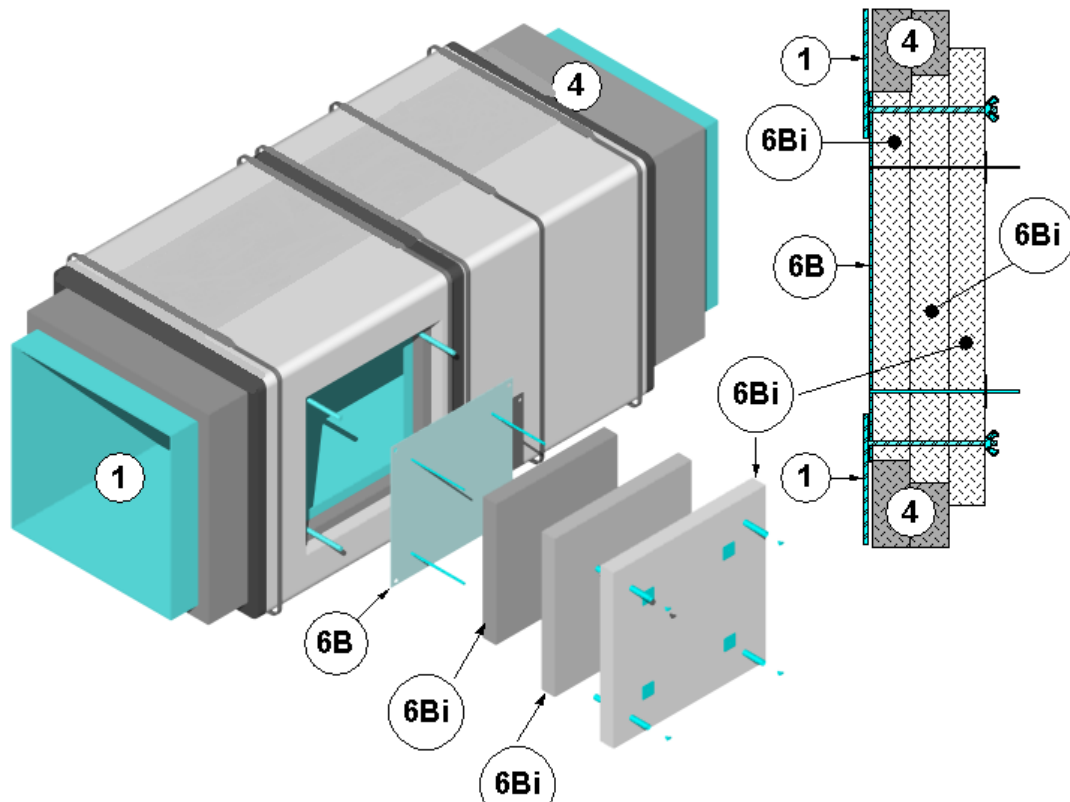

Figure 3 – Field Fabricated Access Door
- B. OPTIONAL FIELD-FABRICATED ACCESS DOORS – Refer to Figure 3. Mark a clean-out access opening location on the insulated grease duct (Item 1) at its mid-height along the horizontal section. Cut a 26 in. x 20 in. opening in the duct insulation (Item 4). Remove and discard the cut duct insulation (Item 4). Cut and center a 24 in. x 18 in. opening into the side of the grease duct (Item 1) by maintaining a 1 in. clearance between the perimeter of the opening and the cut duct insulation (Item 4). Remove and discard the cut steel. Weld four min. 4 in. long, 1/4 in. diameter, all-thread steel rods to the grease duct (Item 1). Locate one steel rod at each corner of the grease duct (Item 1) opening so that they are 11 in. oc and squared within the duct insulation (Item 4) opening.
ACCESS INSULATION – Refer to Figure 3. Apply three layers of access insulation over the field-fabricated access door (Item 6B) as follows. Cut the first piece of access insulation a min. 1 in. larger than the clean-out access opening and install